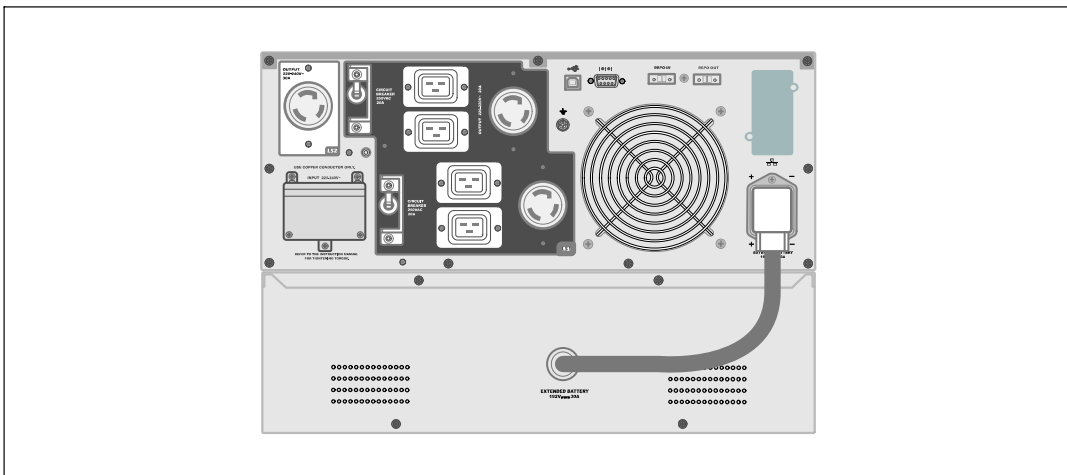

Figure 17. EBM Installation
- 1 Plug the EBM cable into the UPS battery connector (see Figure 17).